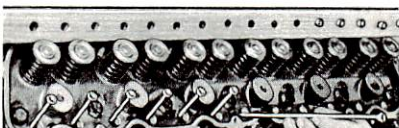

FIG. 17—Valve Push Rod Removal
9. Back off the valve lash adjusting screws to remove the load from the rocker arms. Loosen the valve rocker arm shaft retaining bolts and remove the valve rocker arm shaft assembly (Fig. 16). Remove the valve push rods in sequence (Fig. 17).